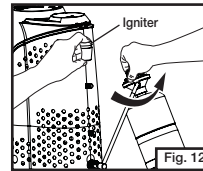

Fig. 12
- Turn regulator valve to "HIGH" press igniter button repeatedly until burner lights. (Fig. 12)